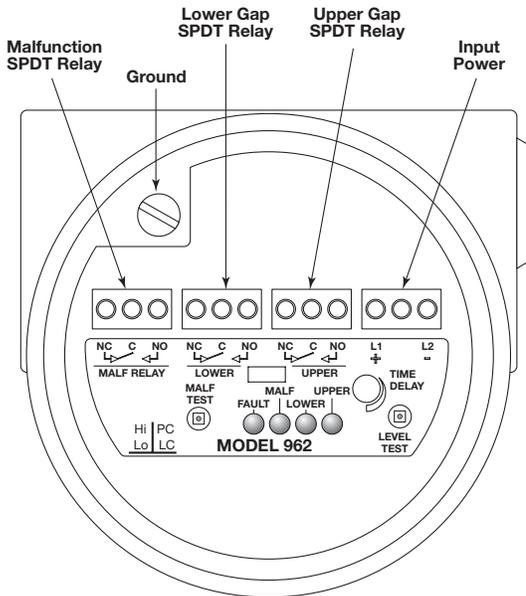

Figure 9
4. Refer to Figure 9. Connect power leads to proper terminals. Model 962 is available for AC power (102 to 265 VAC) or for DC power (18–32 VDC)
5. Connect desired relay wiring as shown in Figure 9.